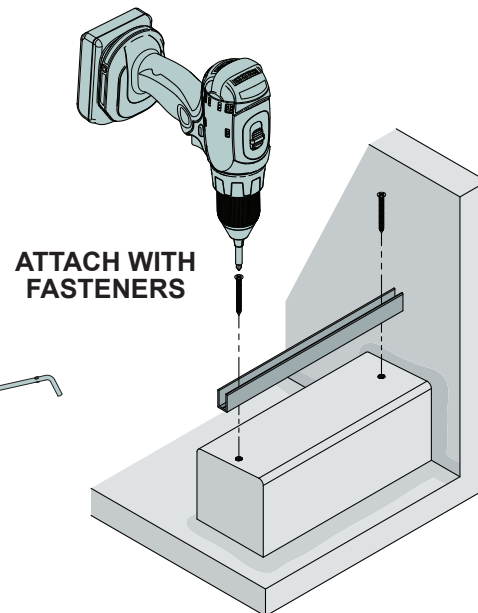

Figure 8
4. Attach the channel with **Cat. No. P815SS** Stainless Steel Screws (not included) and add **Cat. No. 33SMRC or 33SC** Silicone Sealant to the screw heads. (Figure 8)